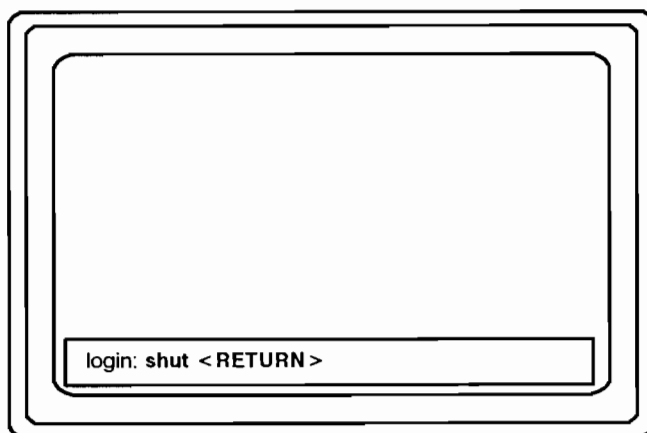

Figure 3-9. Shutting Down
2. To stop all processes, enter the **shut** command as shown in Figure 3-9.